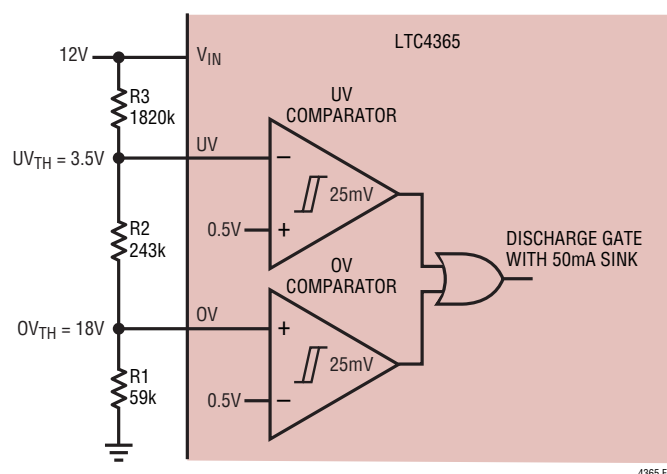

Figure 3. UV, OV Comparators Monitor 12V Supply
The LTC4365 provides two accurate comparators to monitor for overvoltage (OV) and undervoltage (UV) conditions at V_{IN} . If the input supply rises above the user adjustable OV threshold, the gate of the external MOSFET is quickly turned off, thus disconnecting the load from the input. Similarly, if the input supply falls below the user adjustable UV threshold, the gate of the external MOSFET also is quickly turned off. Figure 3 shows a UV/OV application for an input supply of 12V.
The external resistive divider allows the user to select an input supply range that is compatible with the load at V_{OUT} . Furthermore, the UV and OV inputs have very low leakage currents (typically $< 1nA$ at $100^{\circ}C$), allowing for large values in the external resistive divider. In the application of Figure 3, the load is connected to the supply only if V_{IN} lies between 3.5V and 18V. In the event that V_{IN} goes above 18V or below 3.5V, the gate of the external N-channel MOSFET is immediately discharged with a 50mA current sink, thus isolating the load from the supply.
The following 3-step procedure helps select the resistor values for the resistive divider of Figure 3. This procedure minimizes UV and OV offset errors caused by leakage currents at the respective pins.
The example of Figure 3 uses standard 1% resistor values. The following parameters were selected: